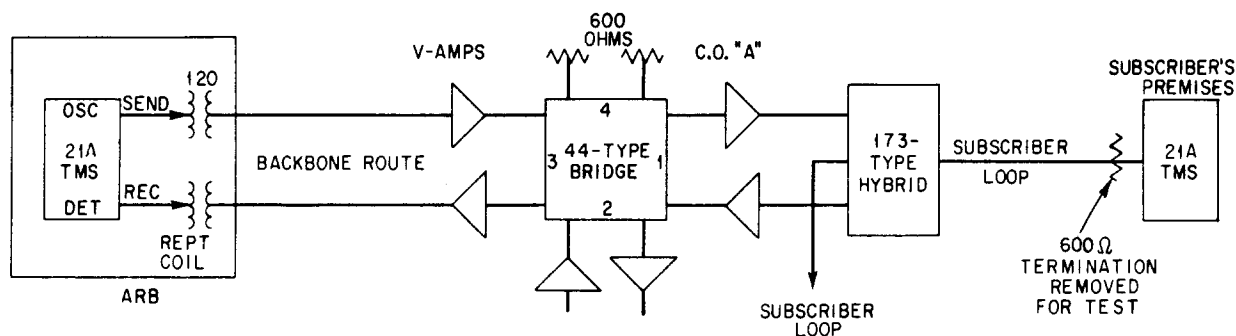

Fig. 3 — Frequency Response Measurement from Subscriber Loops
5.03 The frequency response from 300 to 1300 cycles should also be measured from the subscriber's premises on each subscriber loop to ARB headquarters. The test setup for this is shown in Fig. 3. Chart II outlines the procedure for making the measurements.
5	Connect test equipment as shown in Fig. 3.